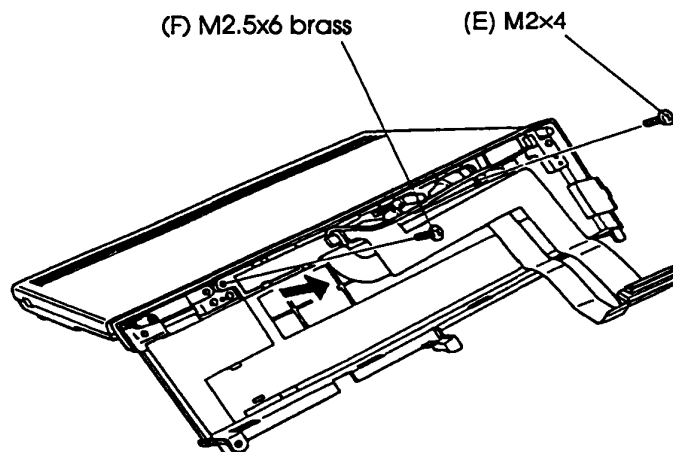

Figure 4-15 Removing the LED holder screws
5. Remove the one (M2x4) screw (E) and one (M2.5x6 brass) screw (F) securing the LED holder to the top cover (Figure 4-15).
4. Set the LED holder in place and insert the two (M2x4 and M2.5x6 brass) screws (Figure 4-15).